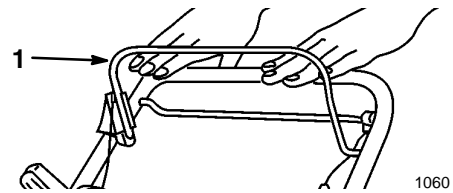

Figure 10
1. Release the blade control bail (Fig. 10). Both the engine and blade will stop. See your dealer immediately if they do not.